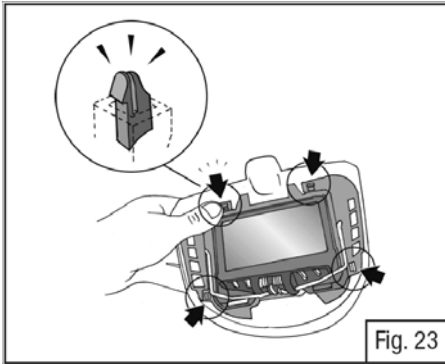

Fig. 23
- Reinstall the ADF holder with ADF into the FlexView silver front panel by aligning the four holes on the lens holder with the four tabs on the black side of the silver front panel. Secure one corner at a time by pushing together the lens holder and silver panel so each tab snap-locks (Fig 23). From the inside, reinstall the rubber locking wedges in the slot at the tip of the retention tabs.